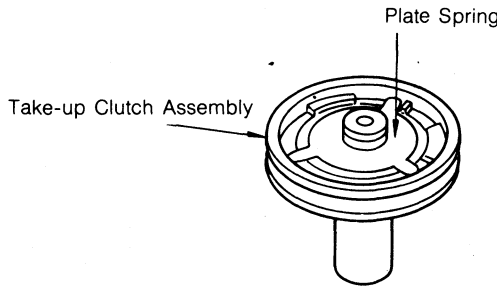

FIG. 14
- Change take-up clutch tension by turning the friction spring under reel table, as shown in Fig. 14 and/or